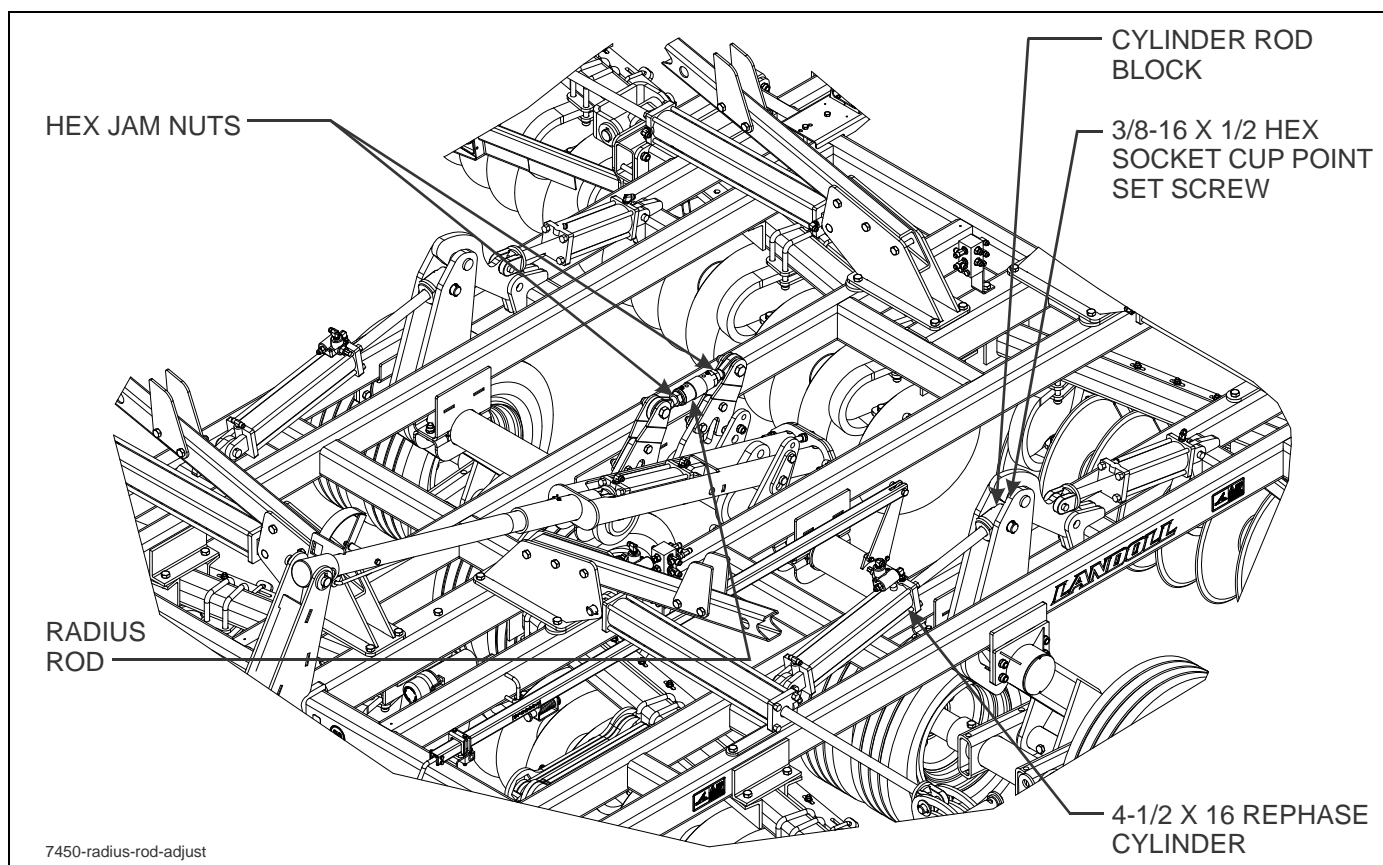

Figure 4-9: Leveling the Center Frame
- d. Measure the distance from the walking beam spindle to the top of the frame on both sides. If there is a difference, it needs to be adjusted by turning the cylinder rods with the wrench flats provided at the clevis end (**See Figure 4-9.**)